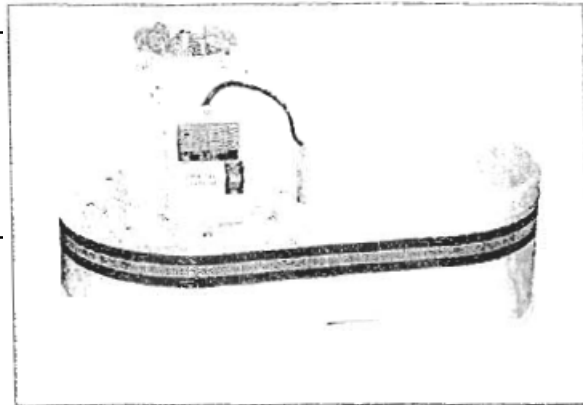

Fig. 1
1. Place motor housing on the floor with the motor fan facing upwards as shown in Figure 1.